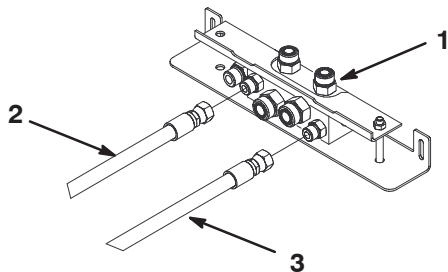

Figure 12
- Hoses 106–0197 & 106–0198 are connected to the control block and bulkhead fittings (Fig. 12). Remove caps from fittings.